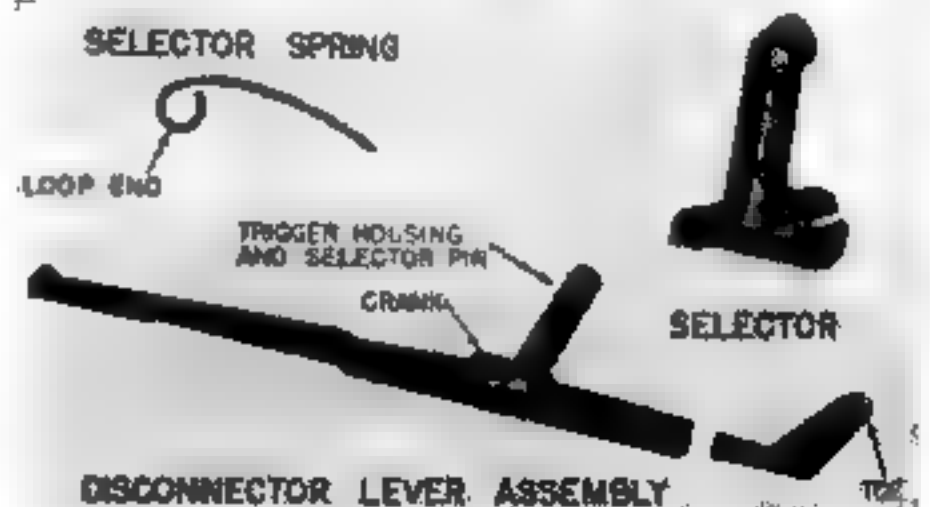

Figure 34. Trigger housing group parts.
- (1) Feeding — moving the cartridge into the path of the bolt.
- (2) Chambering — moving the cartridge into the chamber.
- (3) Locking — locking the bolt in the receiver.
- (4) Firing — driving the firing pin forward to strike the primer, which sets off the cartridge.
- (5) Unlocking — unlocking the bolt from the receiver.
- (6) Extraction — removing the empty cartridge case from the chamber.
- (7) Ejection — throwing the empty cartridge case from the carbine.
- (8) Cocking — pushing the hammer into the cocked position.
d. During the discussion of functioning of the trigger housing group you will find the names of many new surfaces and parts. To help you locate these parts and surfaces, Figures 34 through 37 have been included.